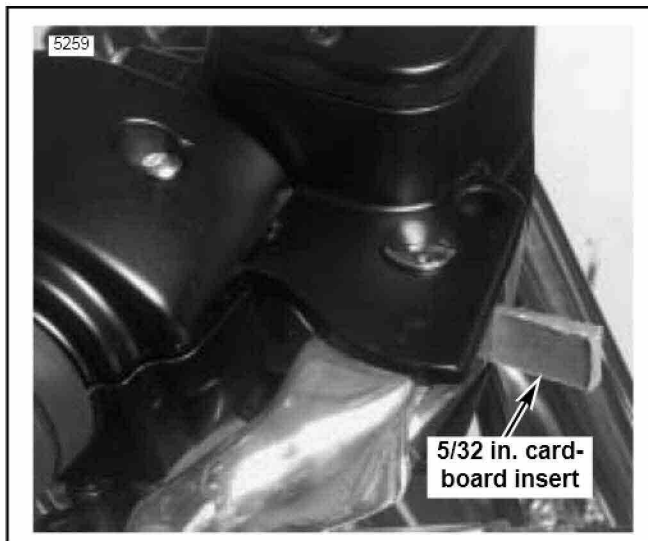

Figure 1. Install Insert Before Removing Master Cylinder
6. See Figure 1. Squeeze the brake lever and place the cardboard insert between the brake lever and lever bracket.